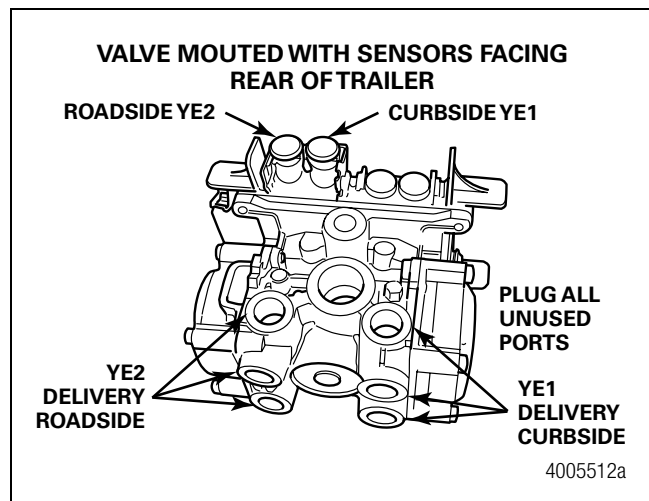

Figure 37
- If the ECU/modulator valve assembly is mounted with the sensors facing the REAR of the trailer, the air lines for the three delivery ports located under the YE2 sensor connector must be routed to ROADSIDE; the air lines for the three delivery ports on the opposite side of the valve must be routed to CURBSIDE. Figure 37.